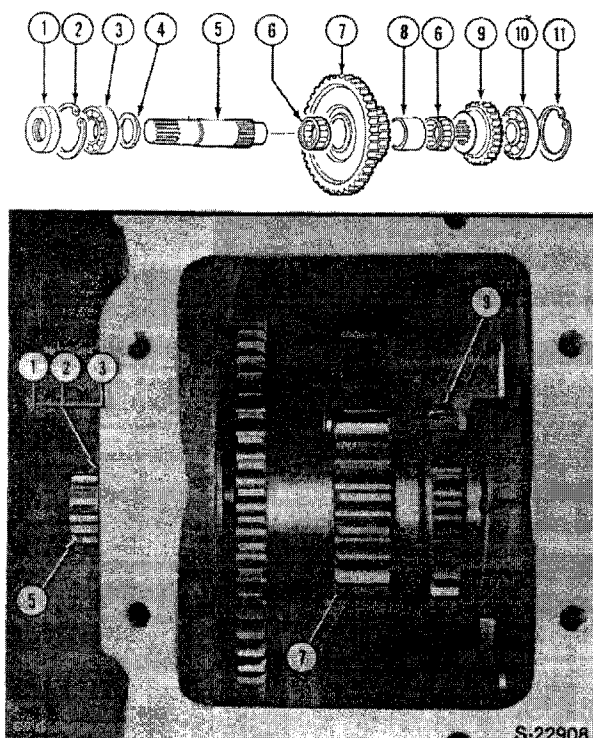

Figure 91
Reference — Figure 91
1. Remove the input shaft oil seal (1), Figure 91.
2. Remove the bearing retaining snap ring (2).
4. Remove the counter gear (7), needle bearings (6), spacer (8), and fixed gear (9), out through the top of the case.
1. Install the input shaft, gear cluster and fixed gear as shown, Figure 91.